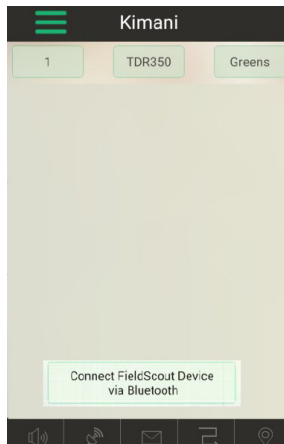

Figure 5a - Bluetooth Connect Button (Grid)
6. In Basic mode, the Grid screen appears. Tap on a grid cell where measurements will be added (Figure 5a)